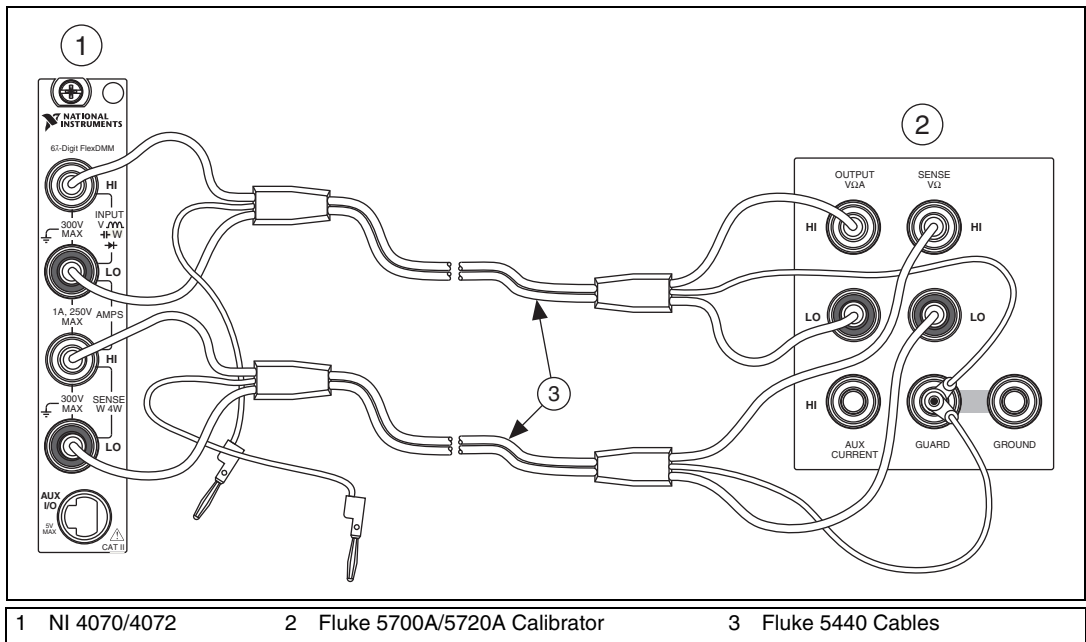

Figure 2. Cable Connections for 4-Wire Resistance
2. Fasten the connectors on one end of each Fluke 5440 cable to the appropriate banana plug connectors on the NI 4070/4072. Fasten the connectors on the other end of each Fluke 5440 cable to the appropriate calibrator binding posts. Figure 2 shows the Fluke 5440 cables. Table 8 lists the cable connections.